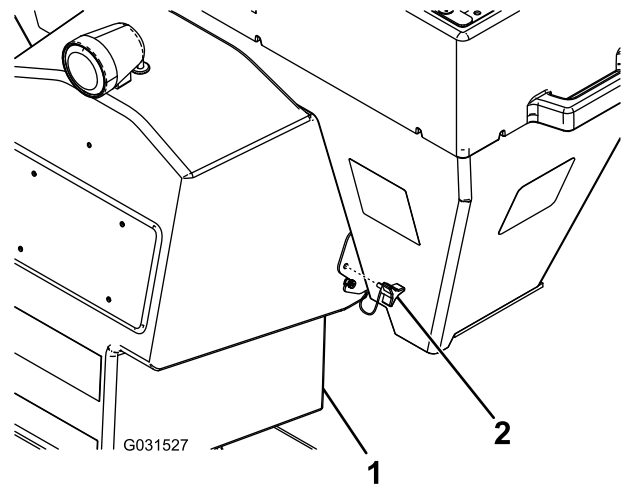

Figure 16
2. Remove the 2 thumb screws securing the spinner assembly to the hopper (Figure 16).
3. Remove the thumb screws from the spinner assembly (Figure 16).
4. Remove the spinner assembly from the hopper (Figure 16).